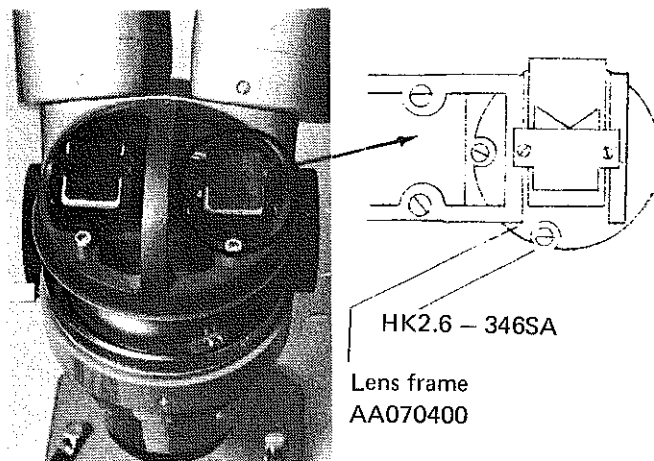

Fig. 9
- a. Loosen two HK2.6–346SA screws at the lens frame, but not completely. (Fig. 9)